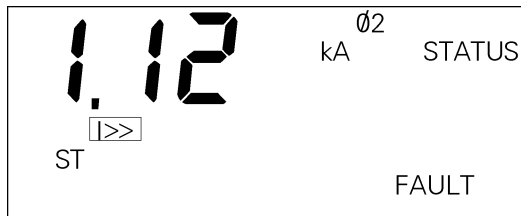

Figure 54. Trip Unit status display for short-time overcurrent trip.
After a short-time trip, the status display appears as in Figure 54. The information presented is similar to that in the long-time overcurrent display, with the short-circuit (I>>) and short-time (ST) targets.